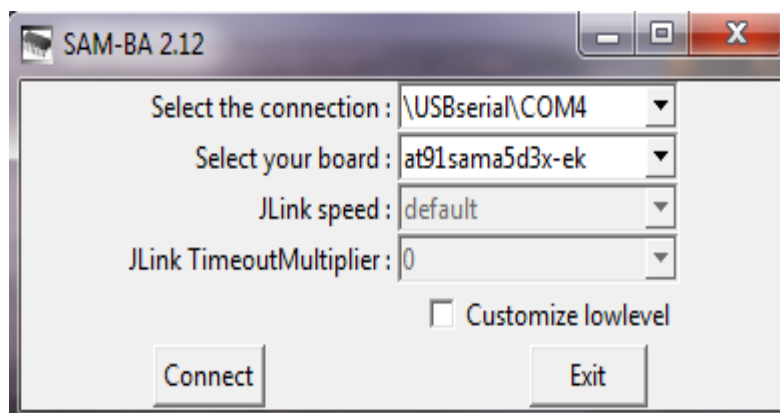

Figure 4-5
(1) After completed chapter 4.3.1 and 4.3.2, double-click samba v2.11, there will appears interface. Refer to figure 4-5: